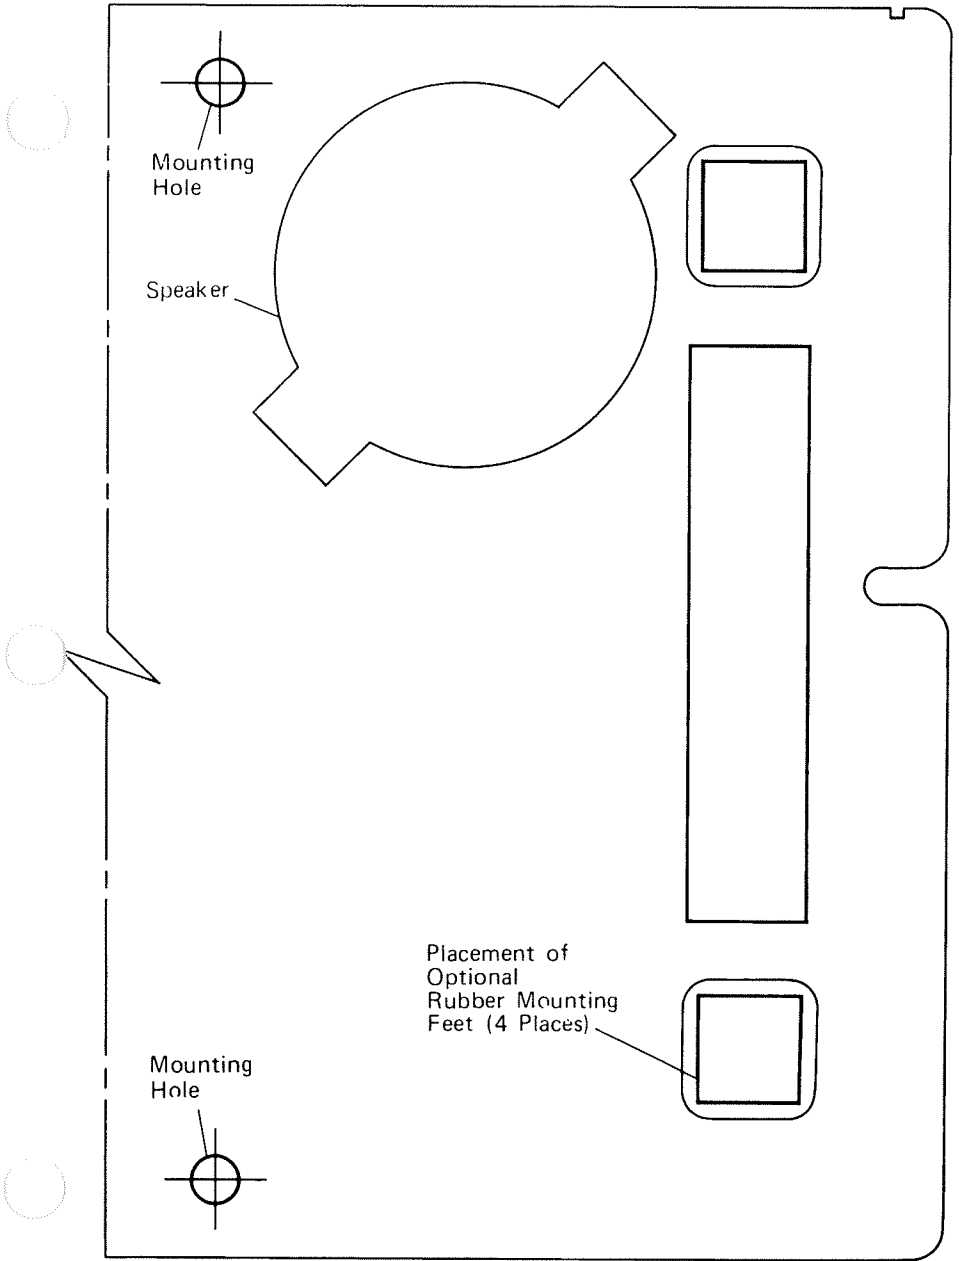

Figure 4-3
3. Use the mounting template (shown in Figure 4-3) to locate and drill screw holes. Do not drill through the controller mounting holes.